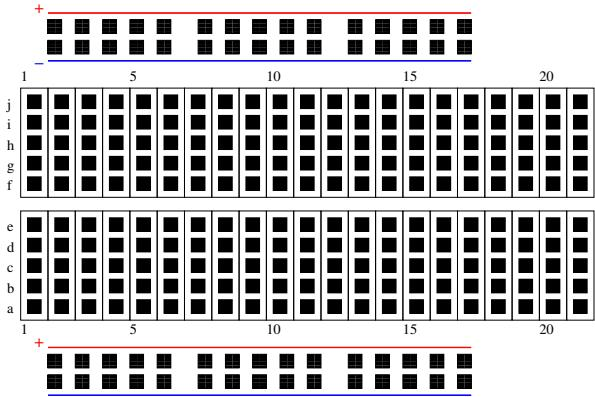

Figure 6.1: Breadboard
- A breadboard (we will be using Figure 6.1 as a guide).
the electrical subtleties or hazards. Taking Figure 6.1 as a reference, the breadboard has internal electrical connections that makes it possible to tie multiple components to a single point. It does so by representing a *physical* connection as multiple rows of the same column. That is: holes 1a and 1d are physically connected inside the breadboard's circuitry, whereas 3d and 4a are not.
Each breadboard is divided by thick spaces among different sections. In Figure 6.1, there are four distinct sections: two with the + and - symbols, and two with numbers and letters. The latter was described above, whereas the former works in the opposite way: holes are connected with other holes in the same row. This section is often used to power the circuit, but more on that further in the practice.